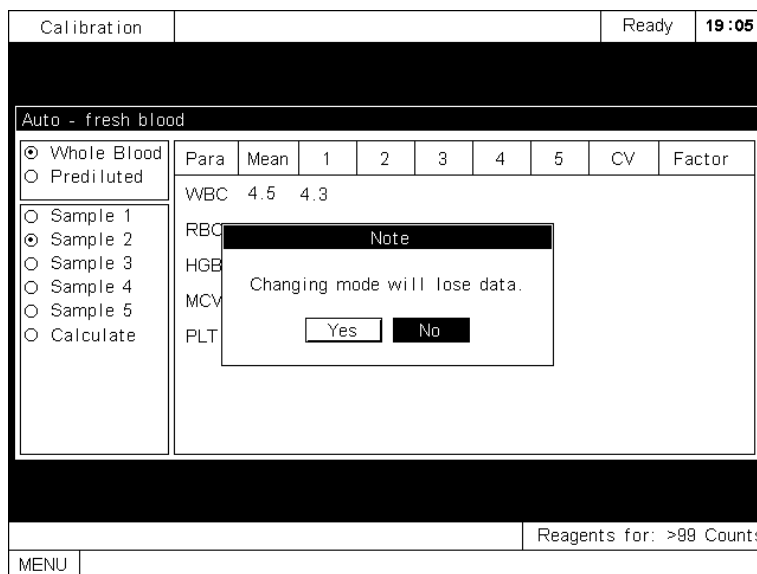

Figure5-26 Warning dialog box
- If the valid results are less than three (the CV and new factors are not available yet) : If you press [F3], a dialog box will pop up to warn you about the data loss, as Figure5-26